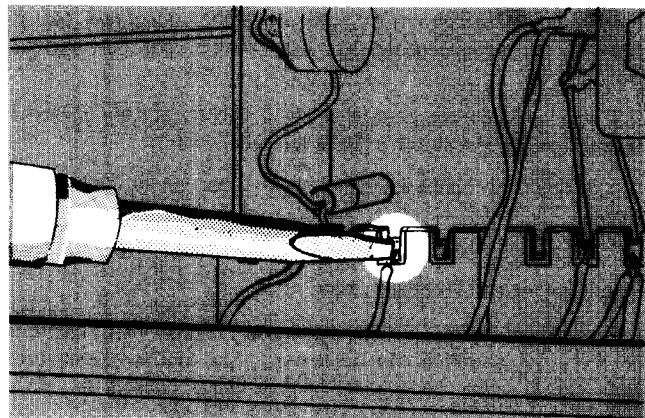

Fig. 5-3. Correct method of applying heat when soldering to a ceramic terminal strip.
2. Apply heat to the solder connection by touching the soldering iron tip to the base of the ceramic strip notch (see Fig. 5-3) while pulling gently on the lead. Do not apply pressure to the strip, as this may break or chip it.